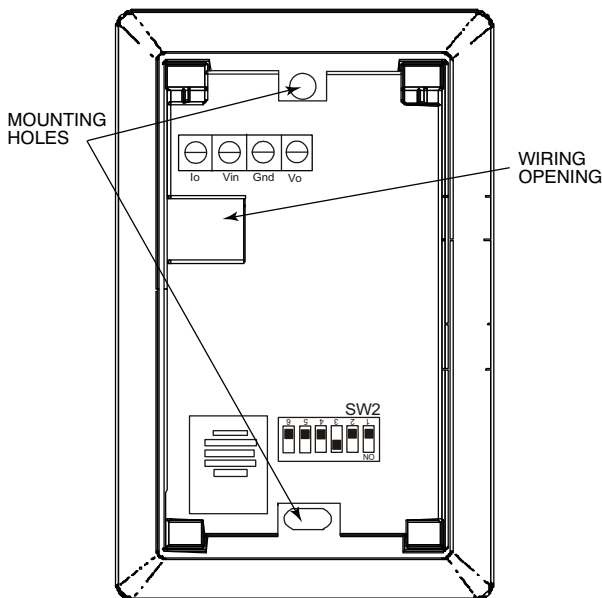

Fig. 62 - Space Relative Humidity Sensor Installation
If the sensor is installed directly on a wall, install the humidity sensor using 2 screws and 2 hollow wall anchors (field supplied). Do not over tighten screws. See Fig. 62.
1. At the sensor, remove 4 inches of the jacket from the cable. Strip ¼ inch of insulation from each conductor. Route the cable through the wire clearance opening in the center of the sensor. See Fig. 62.